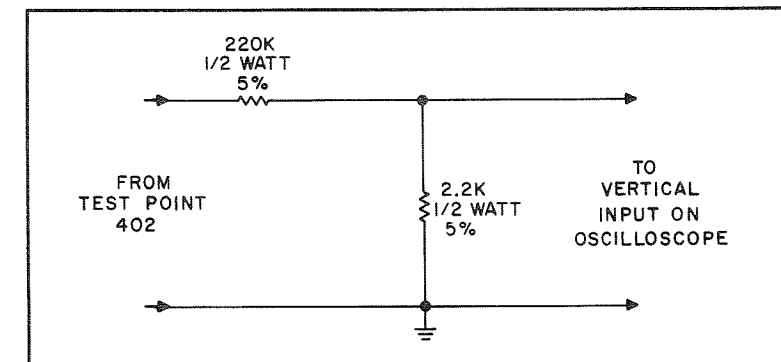
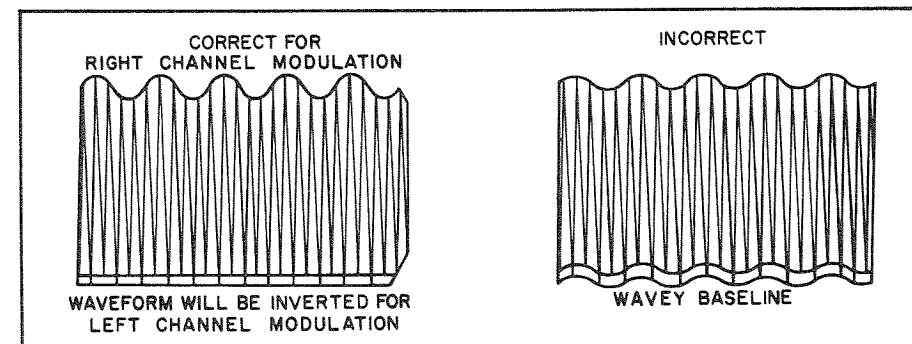

Figure 2. Voltage Divider Probe.
Figure 3. Waveform At Test Point 402.
(1) Disconnect Test Point 501 on front end from ground. (2) Connect 10.7-MHz (Mc) sweep generator to Test Point 501 on the front end. Connect scope's vertical input to Test Point 301 on the 10.7-MHz (Mc) IF amplifier board.
(3) Adjust generator output voltage and frequency to obtain IF response curve. Use as low a generator output as possible.
(4) Align core of IF transformer L505 on front end for maximum gain and symmetry (see Figure 2).
(5) Align top and bottom cores of Z301 and Z302 on IF amplifier board for maximum gain and symmetry (Figure 2).
(6) Connect scope to L or R RCDR jack.
(7) Align top and bottom cores of Z303 on IF amplifier board for maximum gain and symmetrical response (see Figure 3).
(8) Set generator to 10.7 MHz (Mc) with no sweep. Increase generator output voltage to 200 mV. Adjust FM Meter Adjust Pot. R702 on meter and muting board for tuning meter reading of 5.
(9) Align core of Z701 on meter and muting board for maximum reading on tuning meter. Reduce generator output to maintain meter reading between 2 and 3 during this alignment.
(10) After alignment, reconnect Test Point 501 on front end to ground.
(11) Connect DC VTVM to pin 3 on the rear panel Test Points socket.